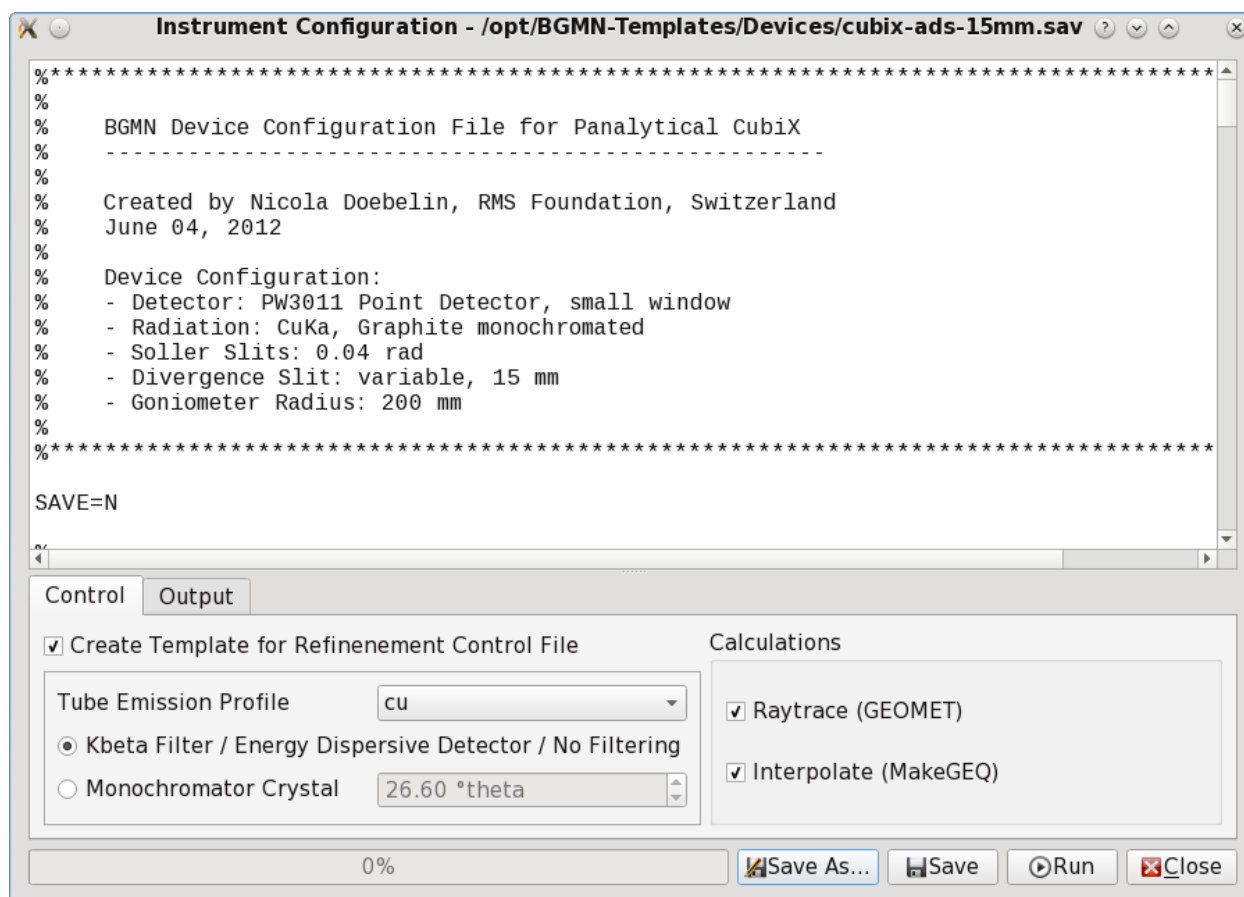

Figure 19: „Instrument → Edit Configuration...” opens a dialog to edit an existing instrument configuration.
2. The instrument dialog shown in Fig. 19 will be shown. Edit the file to precisely match your hardware configuration.